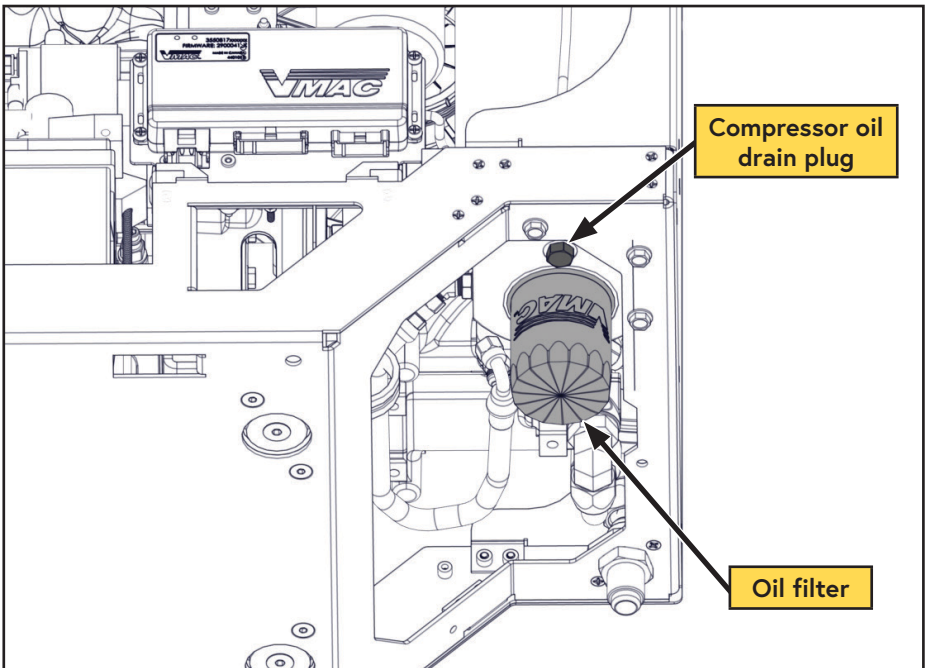

Figure 32 — Drain compressor oil
- ☐ Remove the oil drain plug and drain the oil into a container with a capacity of at least 1.3 USG (5 L) (Figure 32).
- ☐ Remove the oil filter (Figure 32).